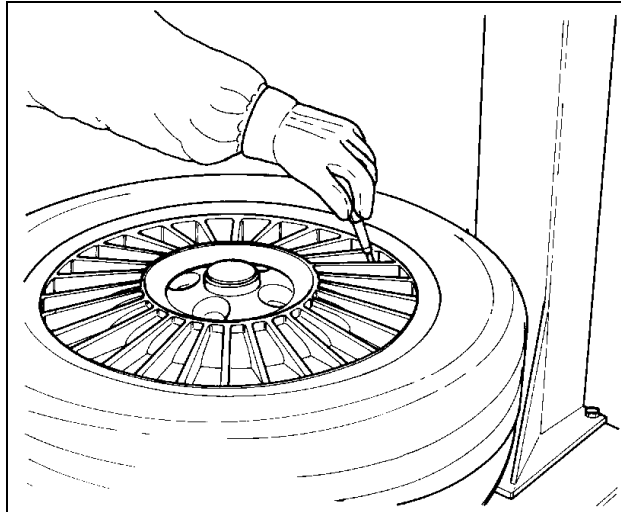

Fig.15
A. Remove the valve or core and deflate the tire (Fig.15).